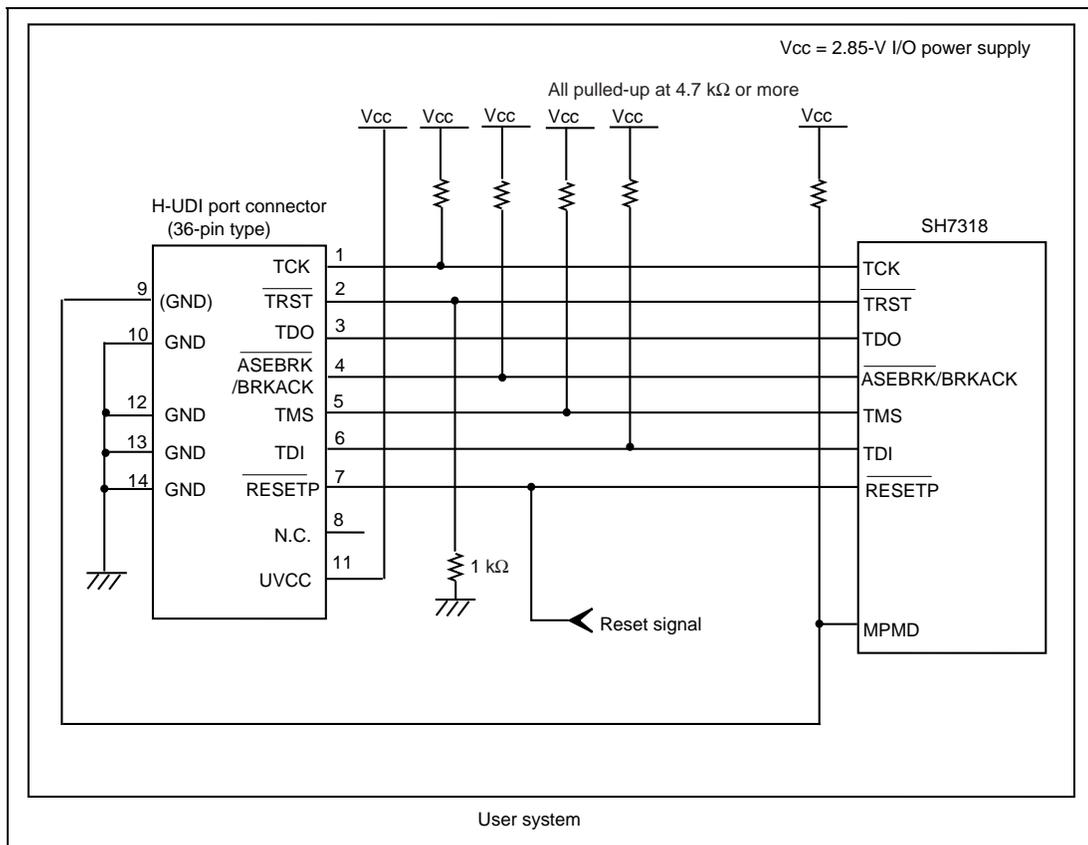

Figure 1.4 Recommended Circuit for Connection between the H-UDI Port Connector and MPU when the Emulator is in Use (14-Pin Type)
Figure 1.4 shows a recommended circuit for connection between the H-UDI and AUD port connectors (14 pins) and the MPU when the emulator is in use.
7. The resistance values shown in figure 1.4 are reference.
When the circuit is connected as shown in figure 1.4, the switches of the emulator are set as SW2 = 1 and SW3 = 1. For details, refer to section 3.8, Setting the DIP Switches, in the Debugger Part of the SuperH™ Family E10A-USB Emulator User's Manual.